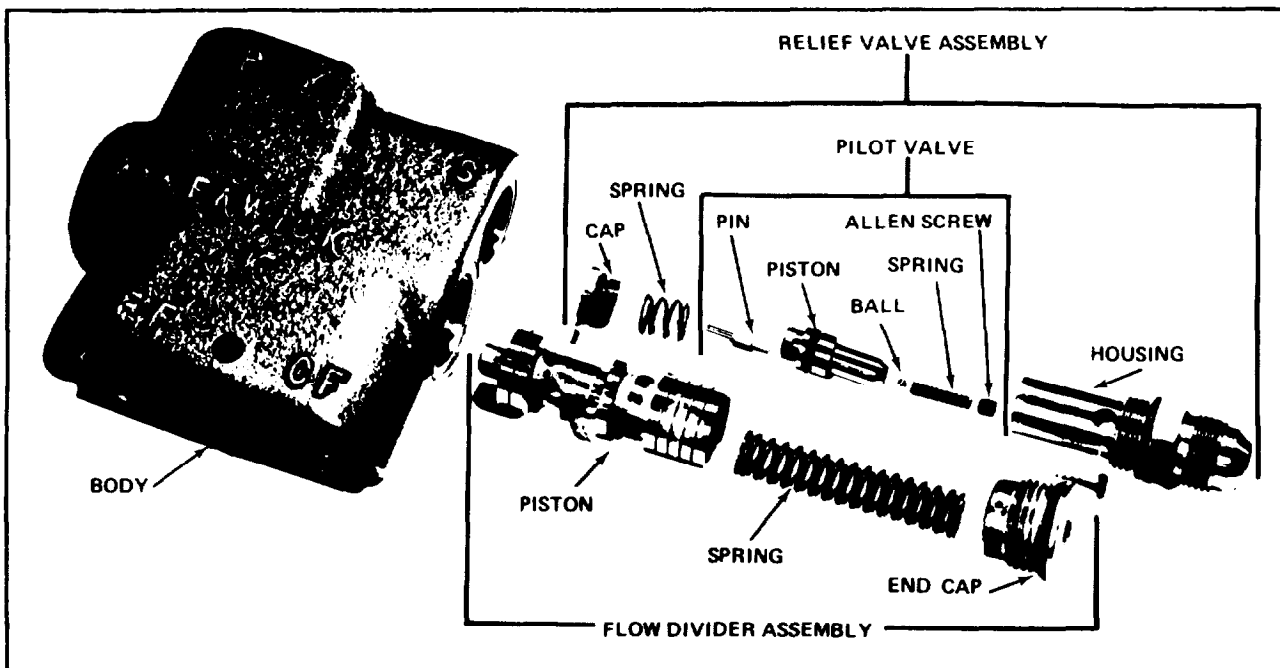

FIGURE 9-88.
**9-93. OPERATION (sw figure 9-88).**
**9-98. DISASSEMBLY (see figure 9-88).**
**9-100. REASSEMBLY AND INSTALLATION (see figure 9-88).**